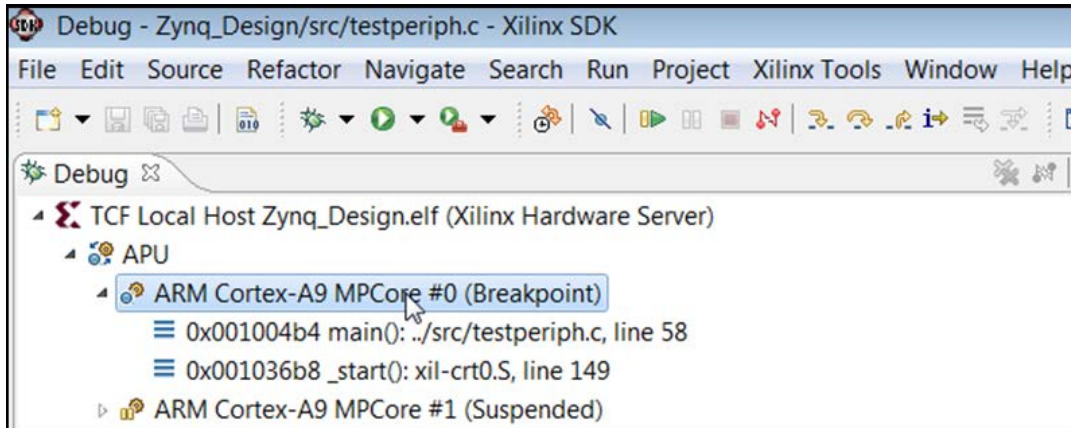

Figure 59: Processor Core to Debug
- In the Debug tab, expand the tree, and select the processor core on which the program is to be run (Figure 59).